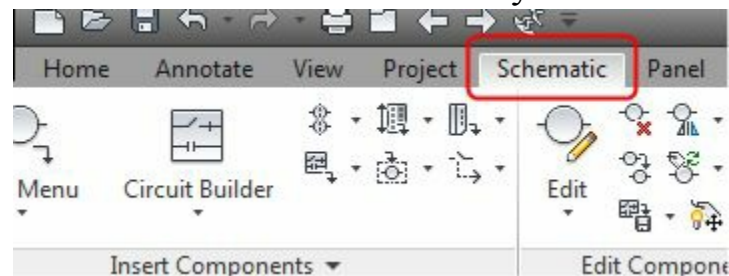

Figure-30. Schematic tab
- Click on the **Schematic** tab if you still in the **Home** tab; refer to Figure-30.